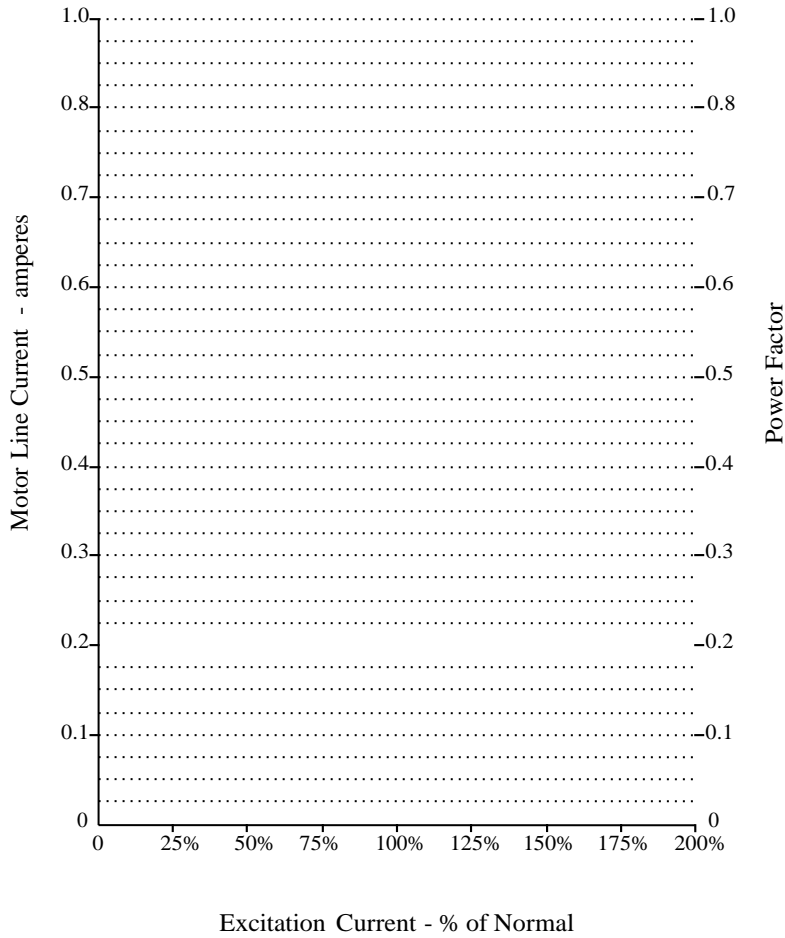

Figure 5
1. Using the results from table 1, plot the V-curves for the motor operating on no-load. Use the axis shown in figure 5.